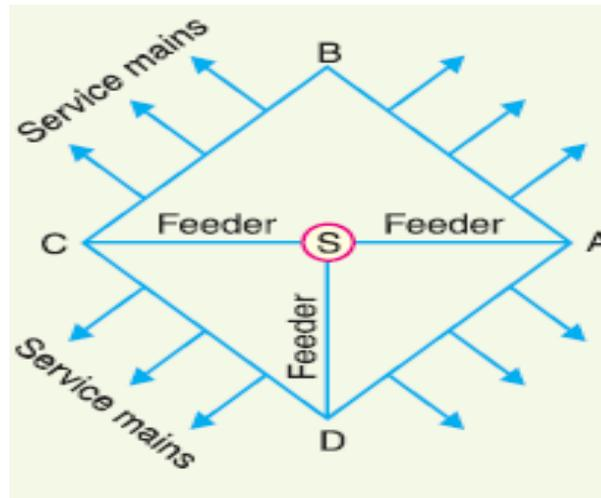

Fig. 12.1
The distribution system is the electrical system between the sub-station fed by the transmission system and the consumers meters. It generally consists of **feeders**, **distributors** and the **service mains**. Fig. 12.1 shows the single line diagram of a typical low tension Electric Power Distribution System.
2. **Distributor:** A distributor is a conductor from which tappings are taken for supply to the consumers. In Fig. 12.1, AB, BC, CD and DA are the distributors. The current through a distributor is not constant because tappings are taken at various places along its length. While designing a distributor, voltage drop along its length is the main consideration since the statutory limit of voltage variations is  $\pm 6\%$  of rated value at the consumers terminals.